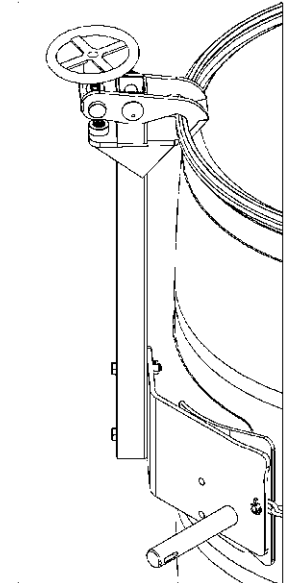

Figure 2.2
- The **Top Rim Clamp** (Part # 4560SS-P) grips the upper rim of your drum to prevent it from slipping through the drum holder (see figure 2.2). To handle a 55-gallon (210 liter) plastic drum with top rim, you **must** install either the Bracket Assembly or the Top Rim Clamp. You can use the Top Rim Clamp with a 55-gallon (210 liter) plastic, steel or fiber drum with suitable top rim.